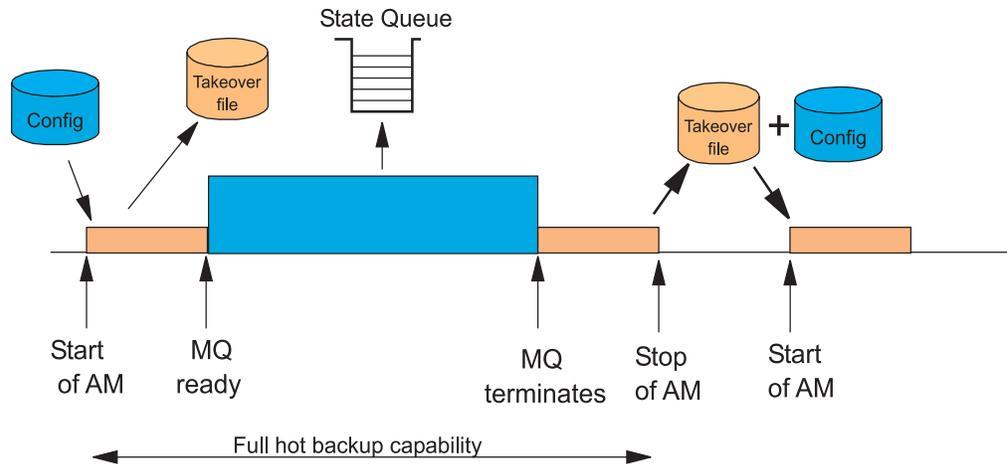

Figure 5. Automating MQSeries with SA OS/390
2. (Not represented in Figure 5) If the PAM or its system fail during the startup phase, an SAM becomes the new PAM. The new PAM reads the actual state of the automatable resources from the takeover file.
4. (Not represented in Figure 5) If the PAM or its system fail while MQSeries is running, a SAM becomes the new PAM. The new PAM uses the information of the shared MQSeries queues.
- (Not represented in Figure 5) When SAMs exist one of these becomes the new PAM.